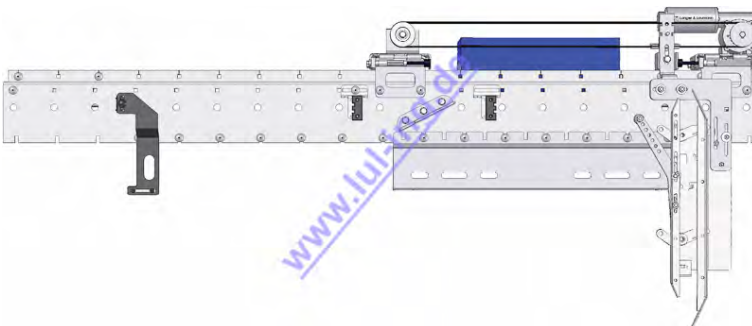
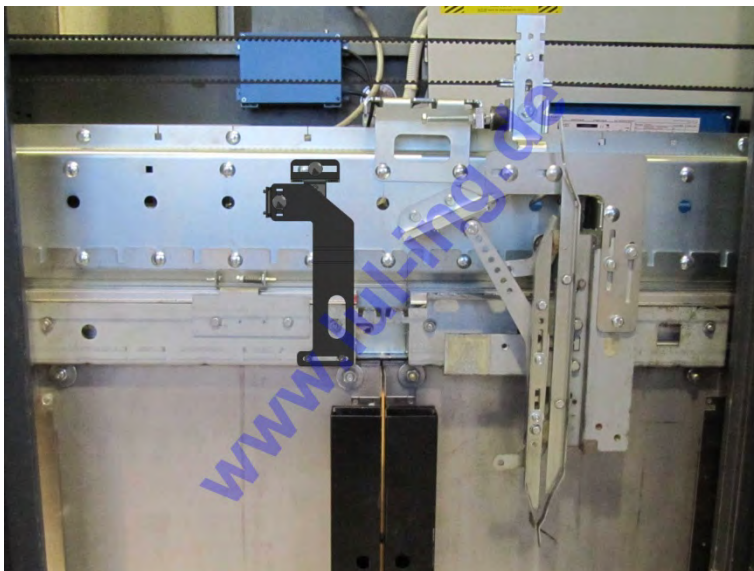

Fig. 4: L&L QKS11 door operator - view from the front (C)
Fig. 7: overview QKS11 L&L - door operator after conversion (here: center opening)
In a centre opening door operator is a second safety contact on the left side mounted. So both panels are quiered (see Fig. 4: L&L QKS11 door operator - view from the front (C) / page 6 und Fig. 7: overview QKS11 L&L - door operator after conversion (here: center opening) / page 8)